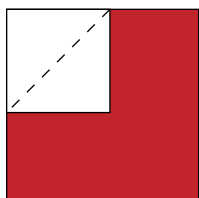
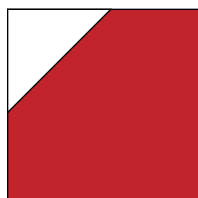

Fig. 8
Fig. 9
5. Place (1) 3 ½" Fabric F square on the top left corner of (1) 6 ½" Fabric J square, right sides together (Fig. 8). Sew across the diagonal of the smaller square from the upper right corner to the lower left corner (Fig. 8). Flip open the triangle formed and press. Trim away the excess fabric from behind the triangle ¼" away from the sewn seam (Fig. 9).